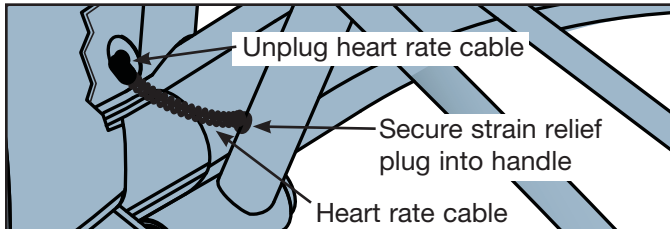

Figure 4
- A. Unplug the heart rate cable that is located near the bottom end of the arm. See Figure 4.
- G. Push the strain relief plug into hole on handle. Verify plug is secure. See Figure 4.
- H. At the lower end of the arm, plug in the heart rate cable as shown in Figure 4.